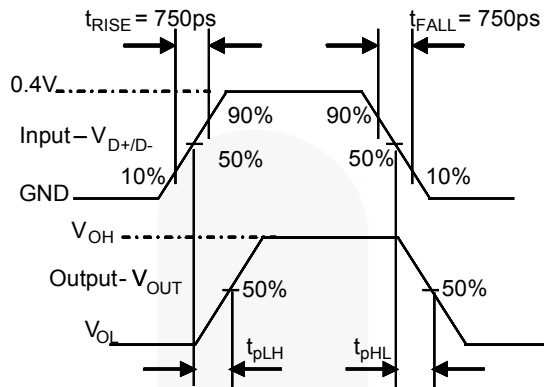

Figure 17. USB Switch Propagation Delay Waveforms
| t PDUSB     | USB Switch Propagation Delay (10) | 3.6                        | R L =50 Ω; C L =0 pFFigure 17   |                                 | 0.25 |      | ns   |